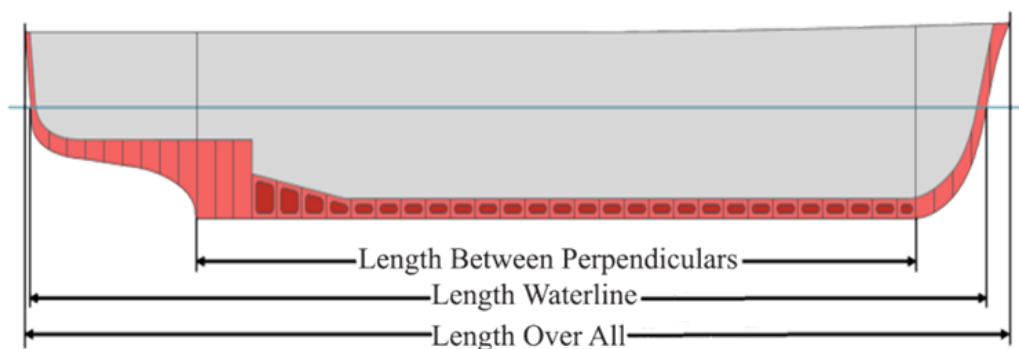

Figure 5. *Length measurement in ships (side view)*⁹
- Engine room (ER): machinery spaces of a vessel.
- Length: how large the ship is (distance between the bow and the stern).⁵ As shown in Figure 5, there are several lengths, the maximum known as Length Over All (L.O.A).